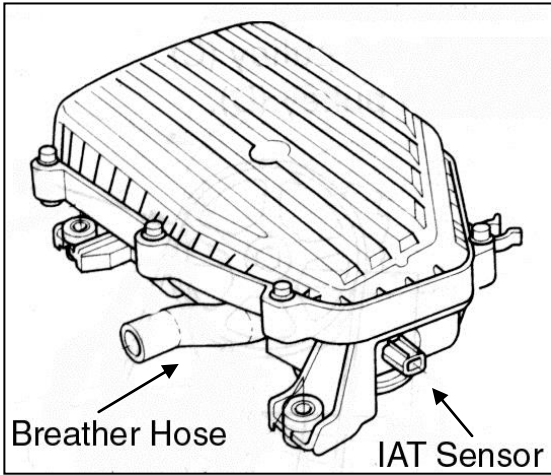

Fig. 1
- a. There is one breather hose and one Intake Air Temperature (IAT) sensor. Refer to the diagram on page 5 for the identification of these components. **(Fig. 1)**